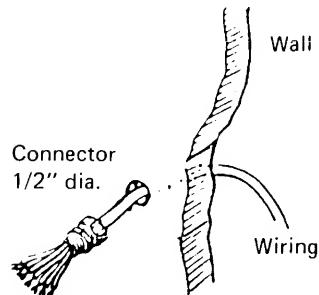

Fig. 13
- a) Insert the interunit wiring (according to local codes) into through-the-wall PVC pipe. Run the wiring toward indoor unit. Fig. 13